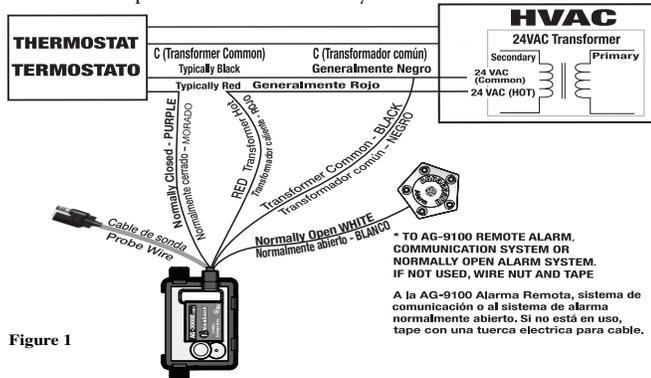

Figure 1
1. Ensure the power is disconnected to the HVAC unit at the main electrical panel prior to moving to step 2. For Breaking "Wall Thermostat" Power Wire (see Figure 1)
- D. "WHITE"; "Normally Open" wire of AG-2550E must be connected to AquaGuard, AG-9100 External Alarm (see Figure 1) or Home Alarm System, or Communicating System, etc..